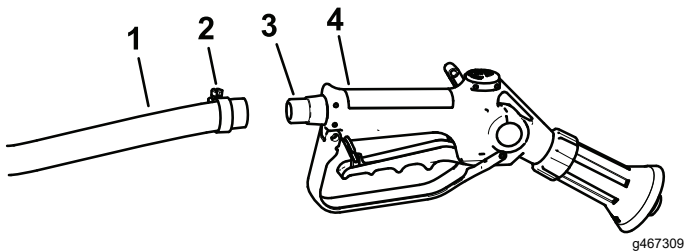

Figure 52
2. Connect the free end of the long hose to the fitting on the spray gun (Figure 52).